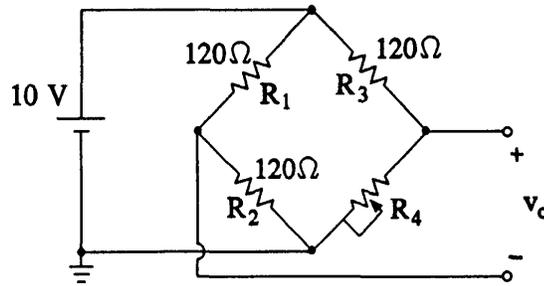

Fig. 5
- 2.2 Construct the Wheatstone bridge circuit using R_{g1} as R_1 , R_{g2} as R_2 , a nominal 120 Ω resistor in the third arm (R_3) and a 200 Ω variable resistor (pot) in the fourth arm as shown in Fig. 5. Ensure that the source voltage is 10 V after it is connected to the circuit.